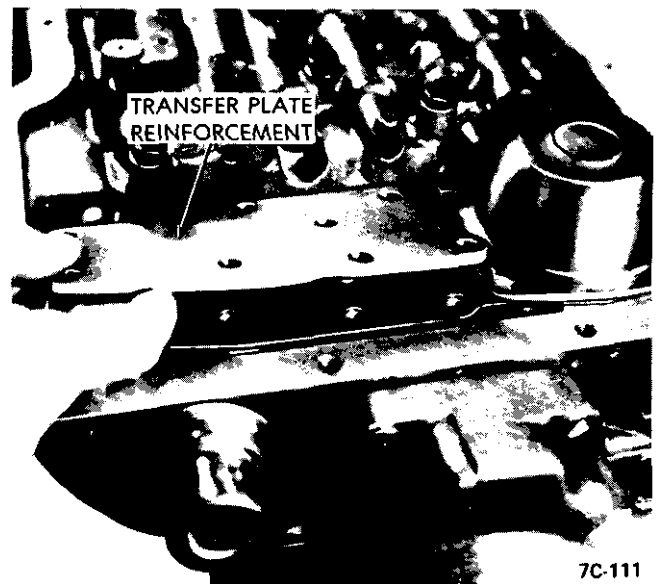

Figure 7C-1 11
4. Remove the four servo cover attaching bolts and remove servo cover and gasket. See Figure 7C-112.